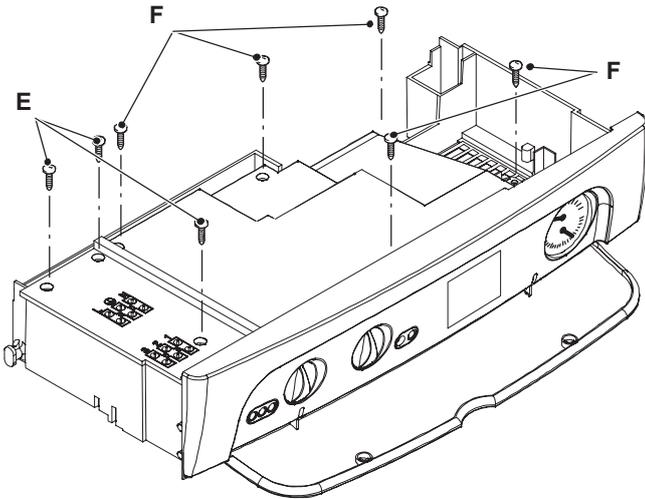

Figure 2.5
- 5 Remove the screws E and remove the service panel (Figure 2.5);
- 6 Remove the screws F and remove the control panel lid (Figure 2.5).